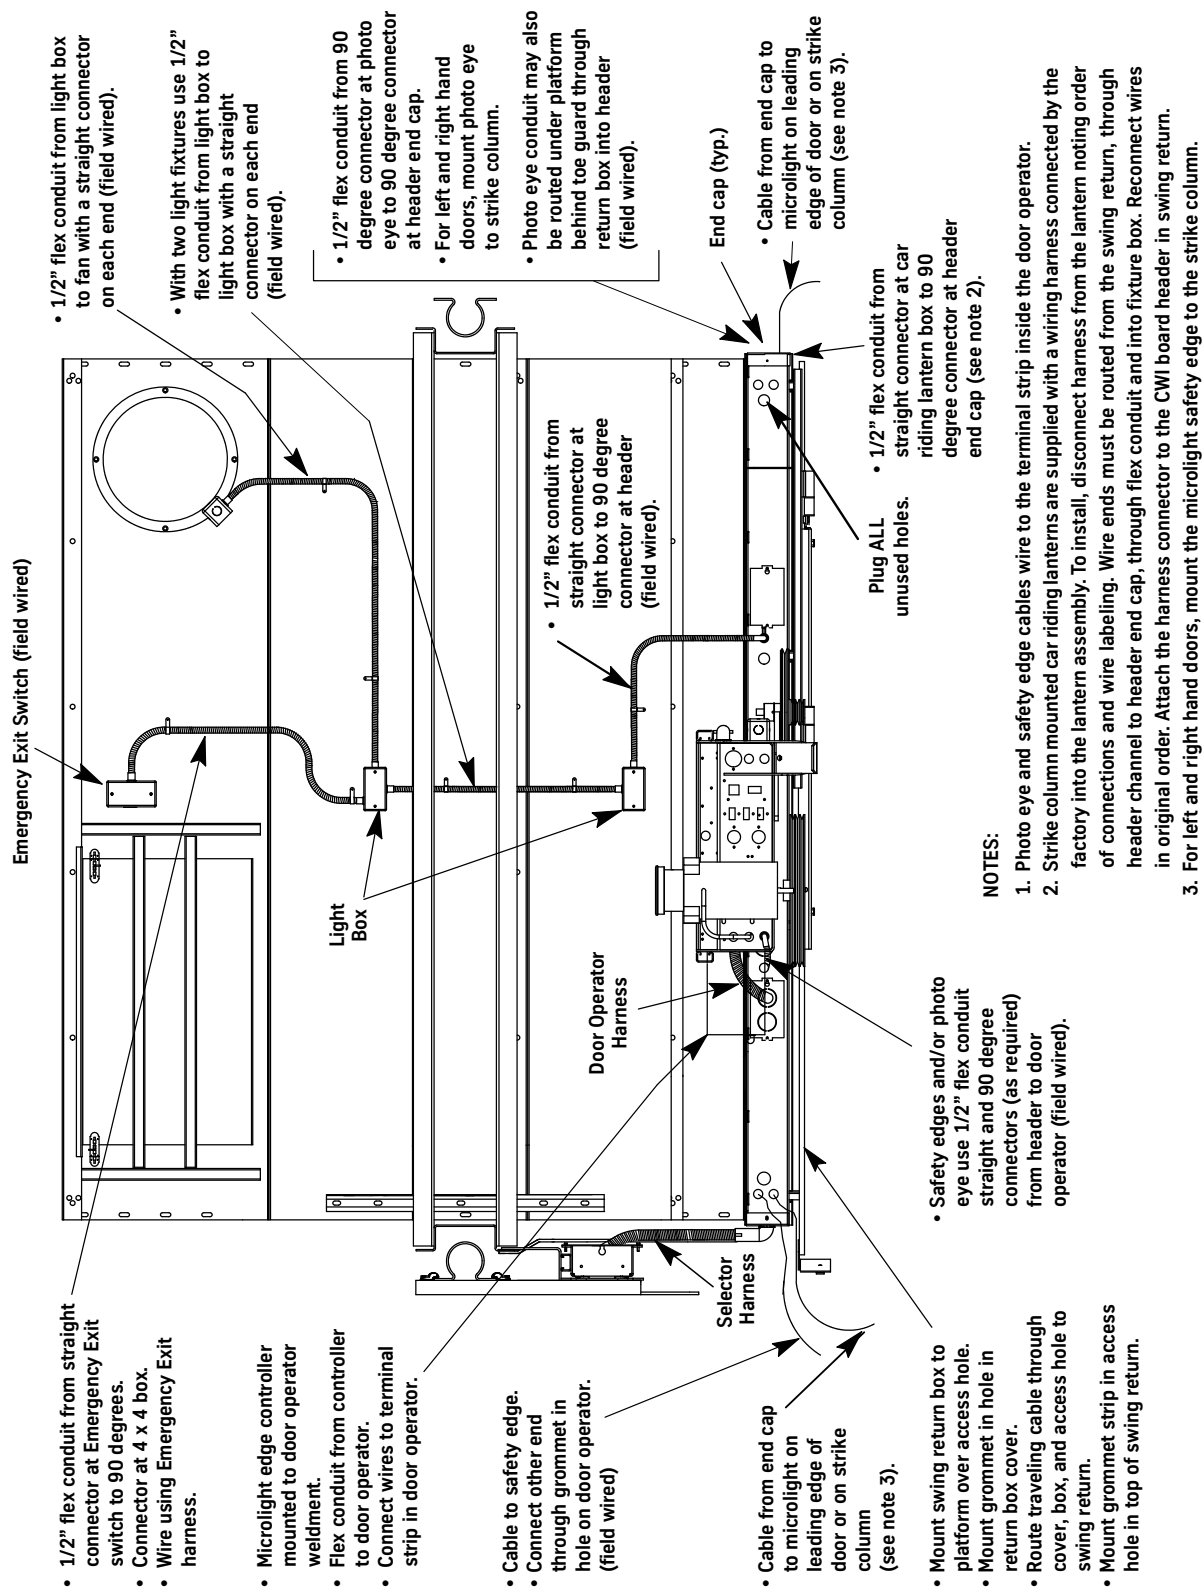
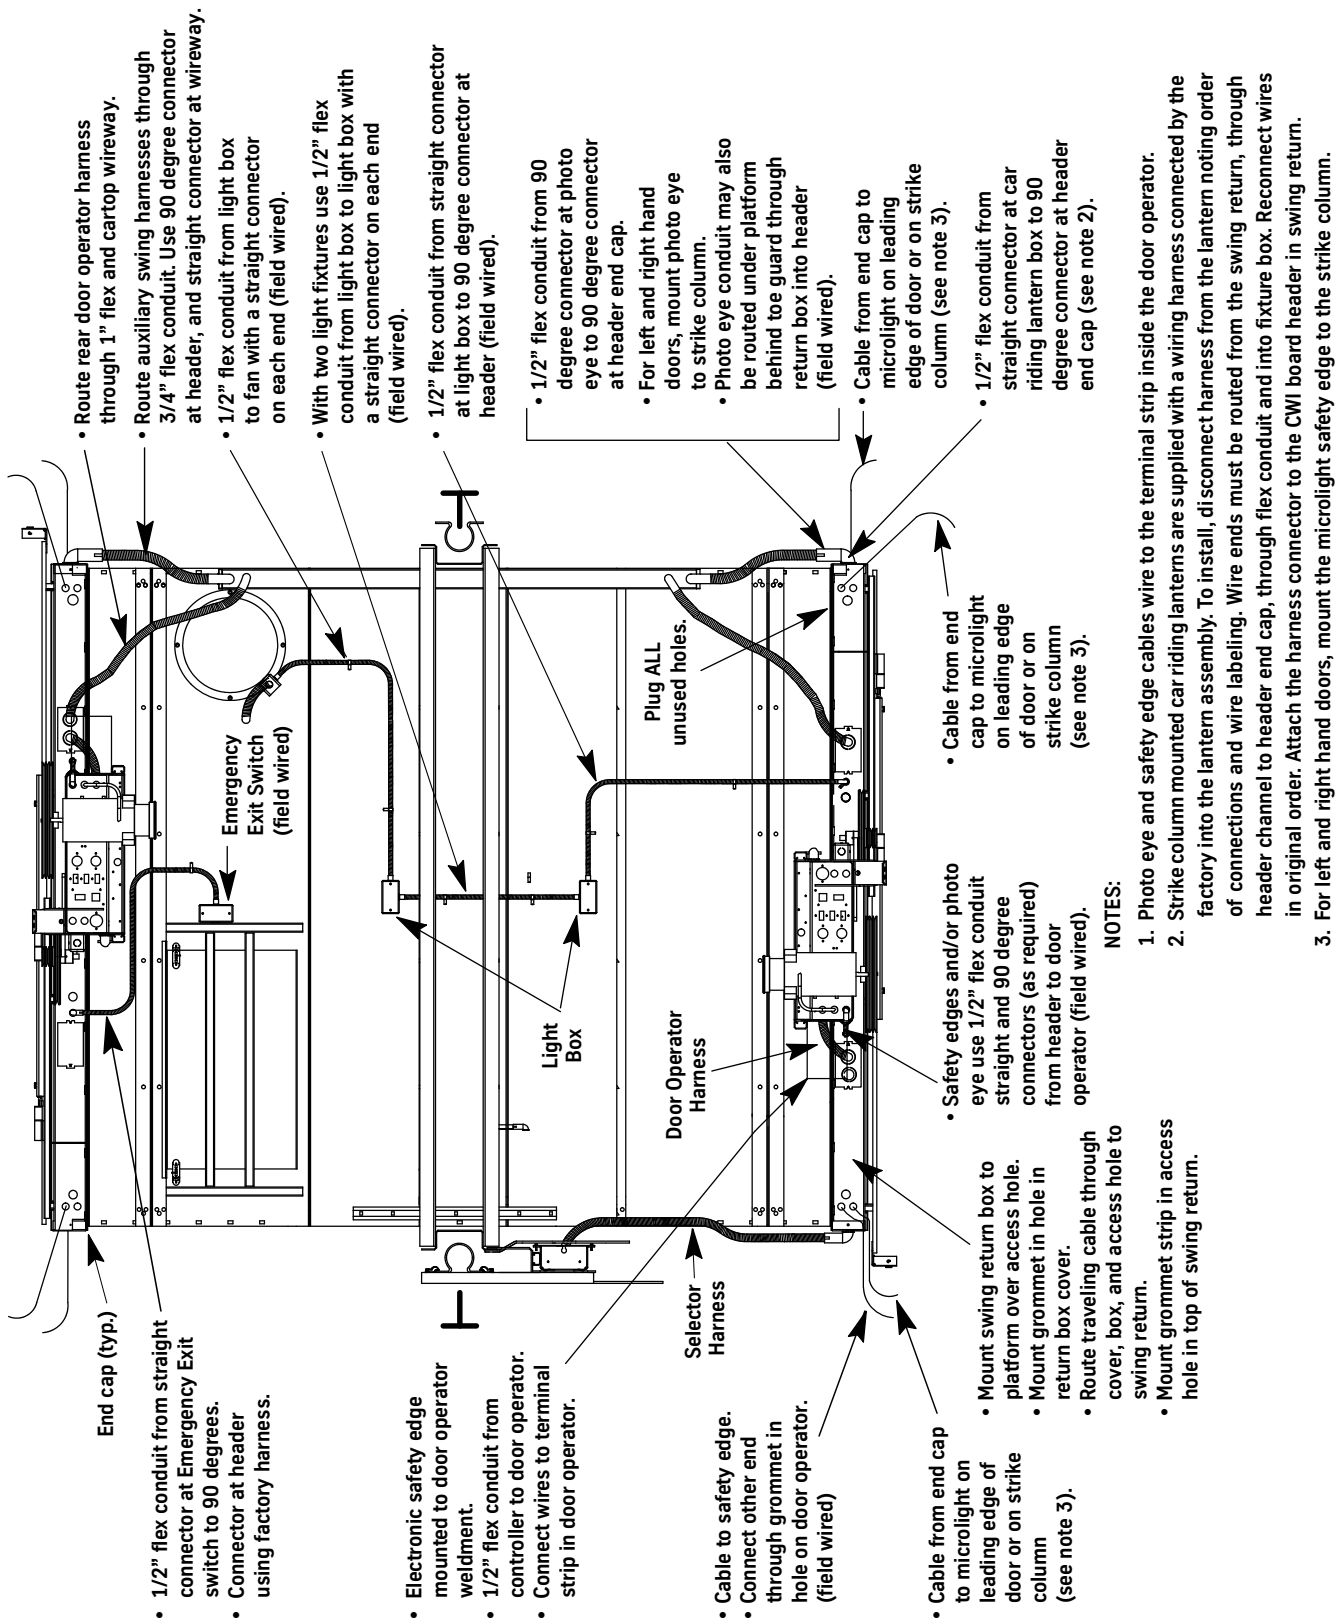

Figure 11 - Typical Car Top Wiring (shown with Vertical Express HD-11 Door Operator)
Figure 12 - Car Top Wiring—Front and Rear Doors (shown with Vertical Express HD-11 Door Operator)
1. Insert the end of the selector harness (with the MTA connectors) through the end of the header and into the main swing return. Connect the flex conduit to the car header end cap, or where the selector harness enters the car. Leave the wires disconnected in the swing return. See Figure 11 on page 33 or Figure 12 on page 34 for this and all additional steps in this procedure.